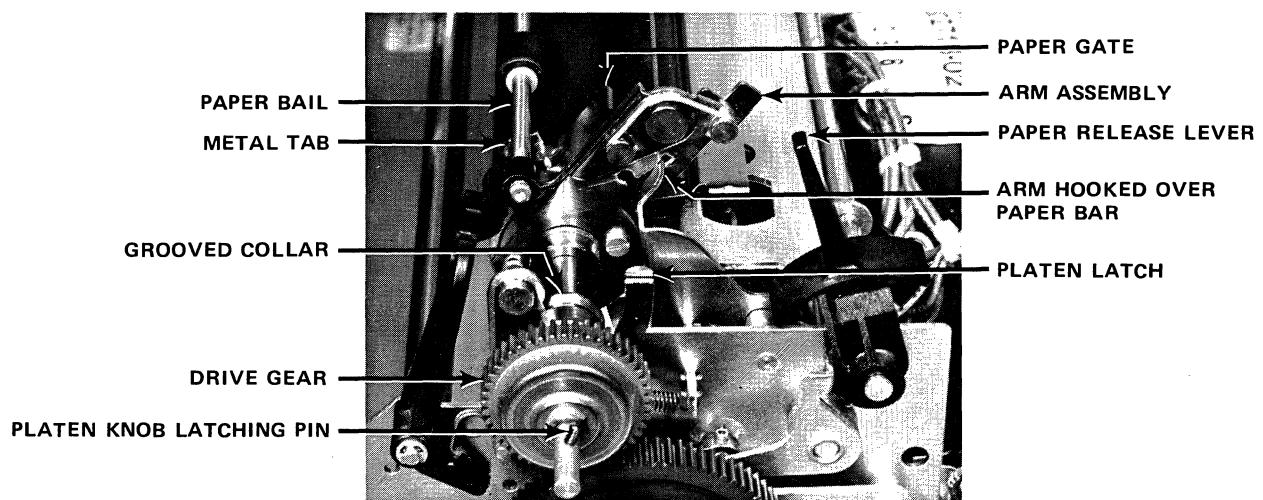

Figure 4-30. PIN FEED PLATEN INSTALLATION
- 6) Depress the platen latches on the printer, and lower the platen into place with the grooved collar at each end of the platen seated in the corresponding notch in the printer side frame. As the platen is being lowered, guide the arm assemblies so that the slot in each arm hooks over the paper bar as shown in Figure 4-30. This locks the arm assemblies into proper position.
- 3) Lift open the paper gate (Fig. 4-30) at each end of the platen. (The gate will remain open if lifted to its limit.)
- 4) Insert the leading edge of the paper down behind the paper bar (Fig. 4-30) and platen while manually turning the platen to feed the paper around and up in front of the platen.